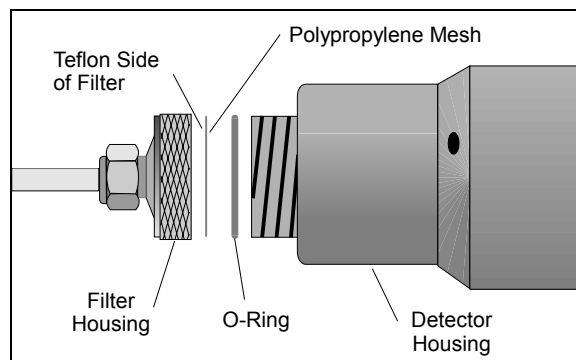

Figure 23 Inlet Filter
1. Turn the instrument off. Unscrew the filter housing from the detector housing. Be careful not to lose the O-ring seal. See *Figure 23*.